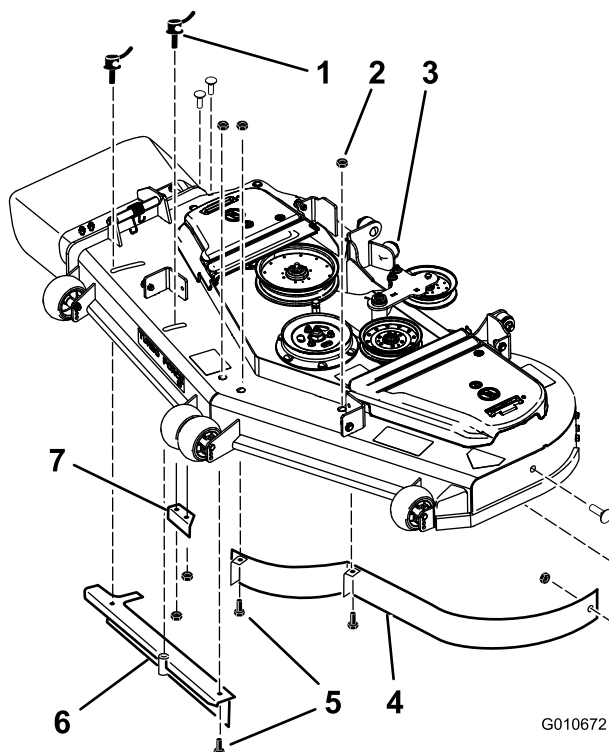
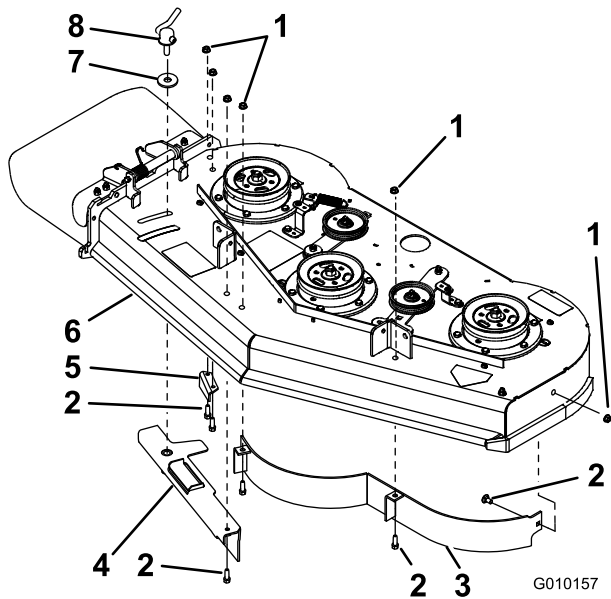

Figure 5
Figure 6
1. Remove the flange nuts holding the baffles in place (Figure 5 or Figure 6).
2. Remove the cam lock and washer by unscrewing it from the adjustable flow baffle (Figure 5 or Figure 6).
3. Remove the six bolts holding the baffles in place (Figure 5 or Figure 6).